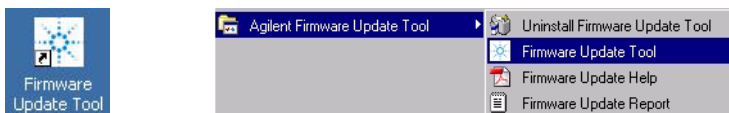

Figure 27 Icon on your desktop and the Program Folder
A Firmware Update Tool icon is installed onto your desktop, and a program folder is installed under Start - Programs (see Figure 27).
The Firmware Update Tool has an un-install routine. If required, remove the Firmware Update Tool via the “**Uninstall Firmware Update Tool**” function within the program folder, see Figure 27.
- 1 Start the Firmware Update Tool via the shortcut (see Figure 27). The following initial screen is displayed: